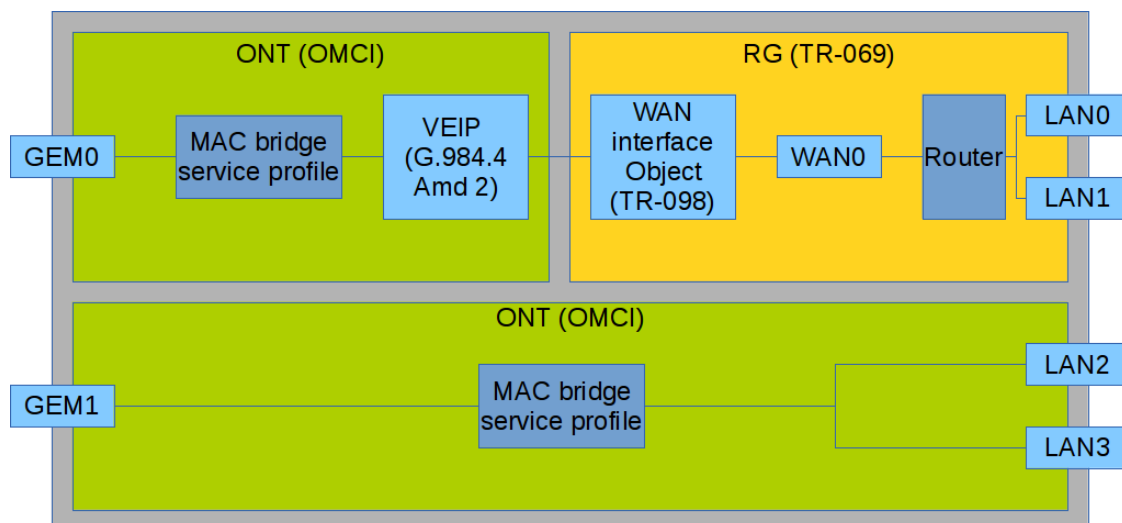

Fig. 40—Services Configuration in ONT and RG Domains
Fig. 40 shows two services (each with a corresponding GEM port on the ONT side), with one of them being **routed** and using both OMCI and RG management domains, and another one being **bridged** and using only OMCI for configuration. Access node configuration includes configuration of bridge interfaces (green areas in the figure) and distribution of LAN ports between management domains.
Consider an example of ONT configuration which simultaneously uses both management domains. Port numbers and internal structure are shown in Fig. 40.
Step 8. Configure a **ports** profile. According to Fig. 40, we need to associate the first two LAN ports with an RG management domain, with another two being associated with an OMCI domain and bound to bridge 1.